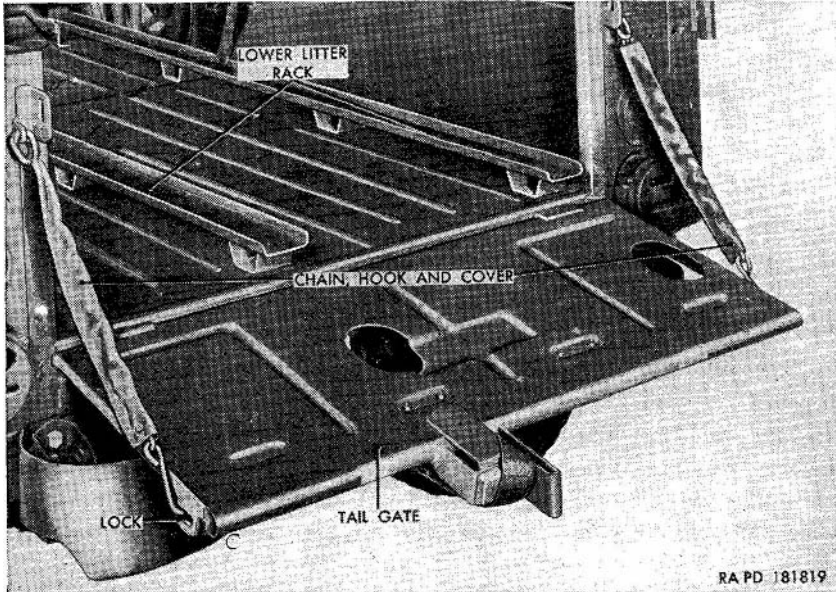

Figure 25. Tailgate (M170)—lowered position.
gate lock. Lower tailgate to horizontal position and secure in lowered position by inserting the hook of each tailgate chain, hook, and cover (fig. 25) into the tailgate locks.
*c. Raising.* Remove the hook of each tailgate chain, hook, and cover (fig. 25) from the tailgate lock. Raise the tailgate to vertical position and secure in place by inserting the hook of each tailgate chain, hook, and cover (fig. 24) through the bracket on the body rear panel and the tailgate lock.